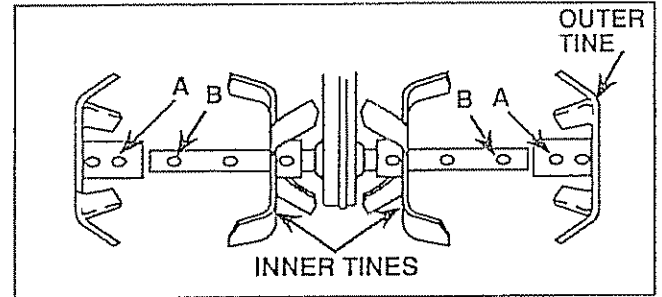

FIGURE 21
- MID-WIDTH TILLING - 15 INCH PATH (outer 1 turned inward and assembled on outer shaft position) Holes "C" in Tines to holes "B" in Tine Shaft (Fig. 21). Use this arrangement for cultivation of crops in 20 inch spaced rows.